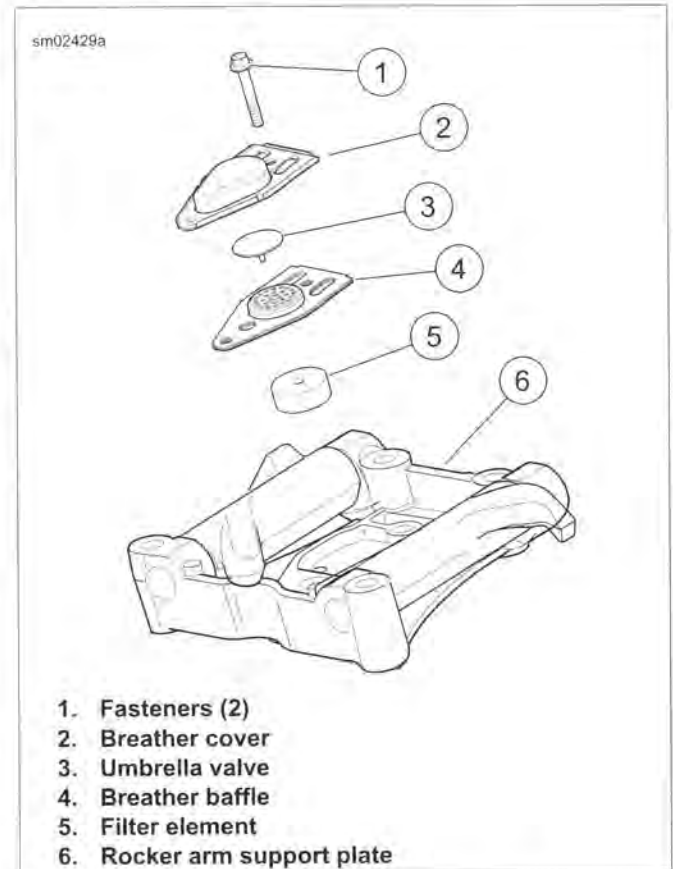

Figure 3-24. Breather Assembly
See Figure 3-24. Breather baffle assembly is manufactured with gaskets attached. Replacement part is supplied with the filter element (5) and umbrella valve (3). Any time the breather is disassembled, the baffle assembly must be replaced with a **new** assembly.
2. Remove two fasteners (1). Remove breather cover (2).
3. Remove breather baffle (4). Discard breather baffle, filter element (5) and umbrella valve (3).
See Figure 3-24. Install breather assembly and rocker cover using **new** baffle assembly. See 3.23 TOP END OVERHAUL: ASSEMBLY, Breather and Rocker Cover.